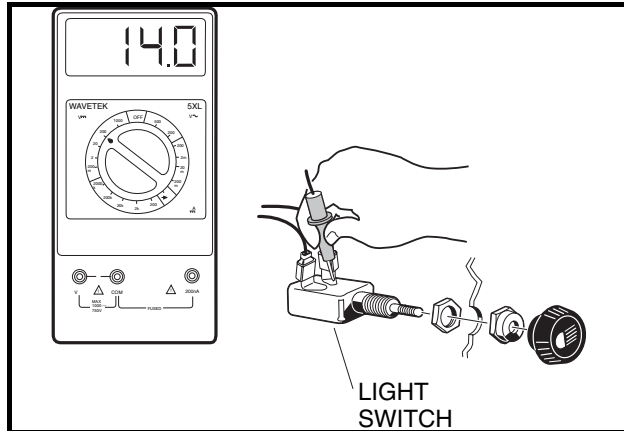

Figure 12-35 Light Switch Test
4. Using a multimeter set on 20 volts DC, place alligator clips on the multimeter probes. Connect the red (+) probe to the light switch terminal with the blue wire connected to it (**Figure 12-35, Page 12-35**).